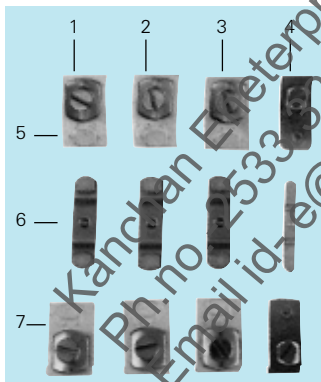

Fig. 10 Fixed/moving, main/auxiliary contacts inspection.
- Remove and inspect the contacts. (fig. 10)